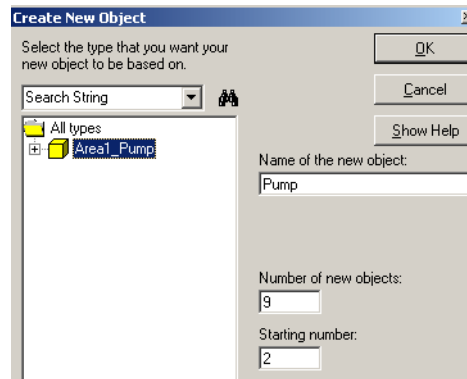

Figure 25. Create New Object Dialog
This displays a dialog for selecting the object type on which to base the objects being instantiated, and for specifying the number of objects to be instantiated. An example is shown in Figure 25.
4. Use the browser on the left side to select the object type from which to instantiate the new objects (for example, *Area1_Pump* is selected in Figure 25).